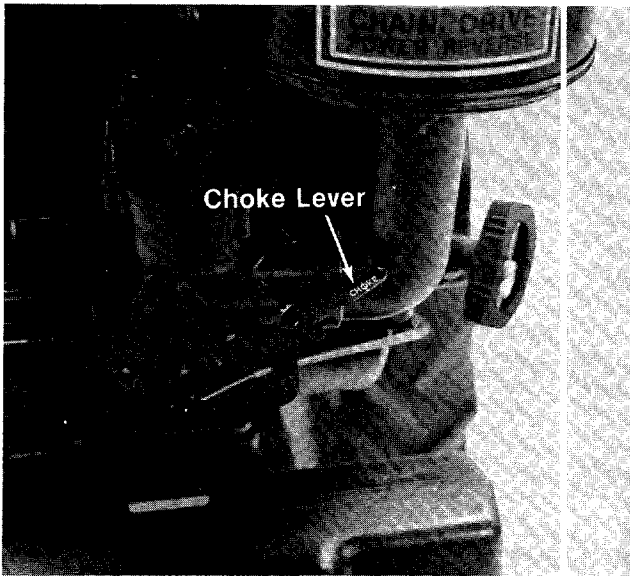

FIGURE 17.
5. Move choke lever down (if engine is cold). See figure 17.
7. Engage the gear shift lever through the five gears with the engine running and return to "NEUTRAL" (N).
The choke is located on the engine just below the air cleaner. To choke the engine, move the choke lever down. See figure 17.
5. Move choke lever down to choke engine. See figure 17.